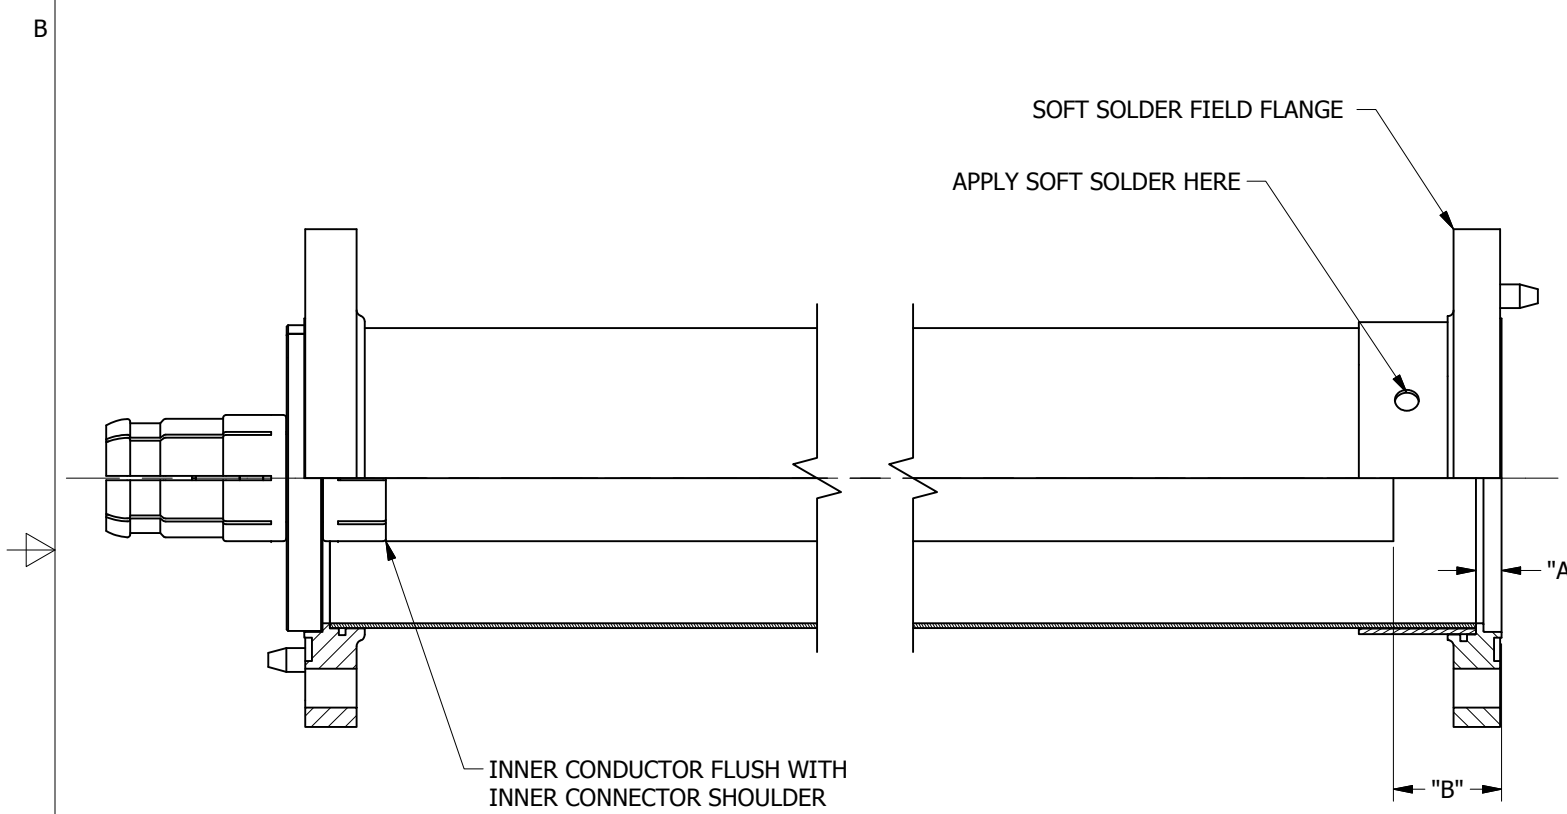

FIGURE 1
1. After determining the exact length of transmission line required, deduct the "A" dimension to allow for the flange. This is the cut length. Twice the flange allowance should be deducted if both ends of the transmission line are to be flanged. Remove the inner conductor to protect it from damage. Refer to Figure 1 and Table 1.
6. The inner conductor must be "B" dimension shorter than the outer conductor when the inner conductor is fully seated on the inner connector on the far end of the line section and the fixed ring has been installed on the near end. The "B" dimension allows for thermal expansion. See Table 1 and Figure 1. After cutting the inner conductor to the proper length, using the scribing, cutting and cleaning procedure in the previous steps, replace the inner conductor and assemble the transmission line.